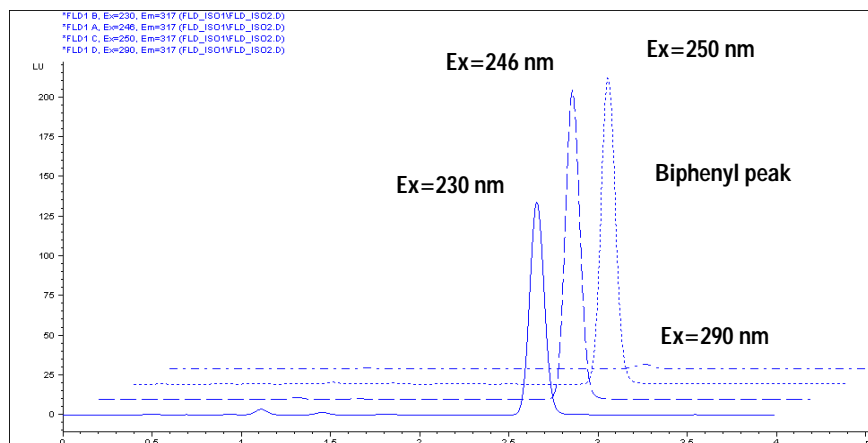

Figure 26 Biphenyl peak with different excitation wavelengths
- The resulting chromatograms are shown in Figure 26: